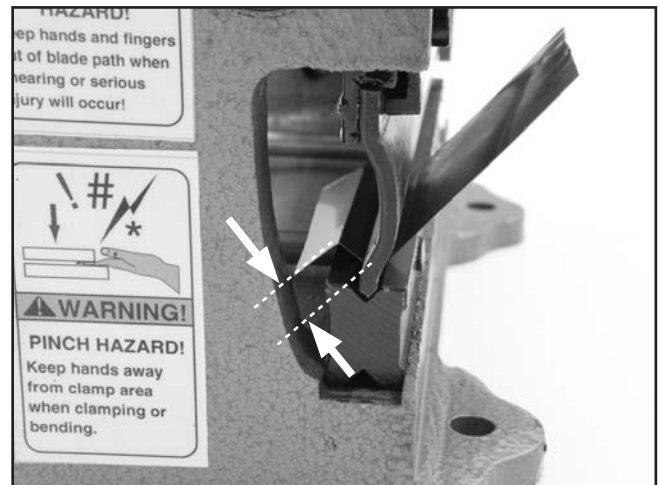

Figure 17. Minimum reverse bend.
9. If a reverse bend is required, reinstall the workpiece upside-down and repeat **Step 4** (**Figure 17**).